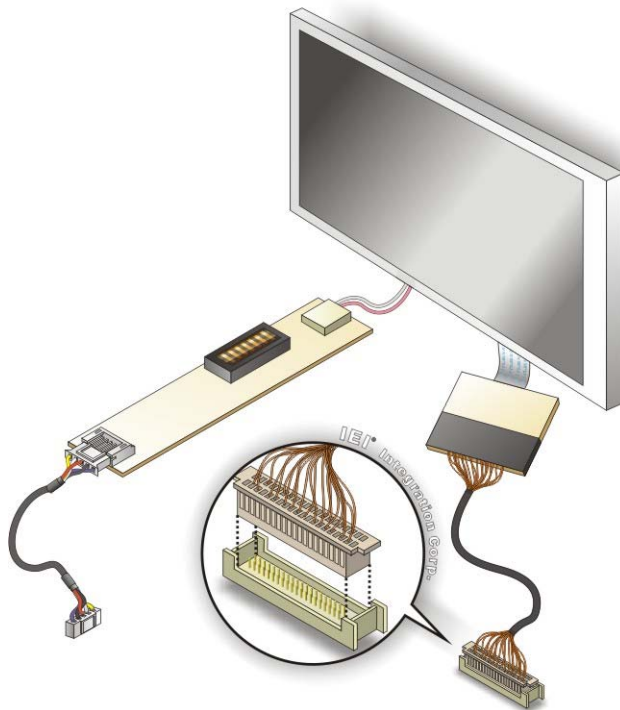

Figure 4-22: LVDS Connector
Step 2: **Insert the cable connector.** Insert the connector from the LVDS PCB driving board to the LVDS connector as shown in **Figure 4-22**. When connecting the connectors, make sure the pins are properly aligned.